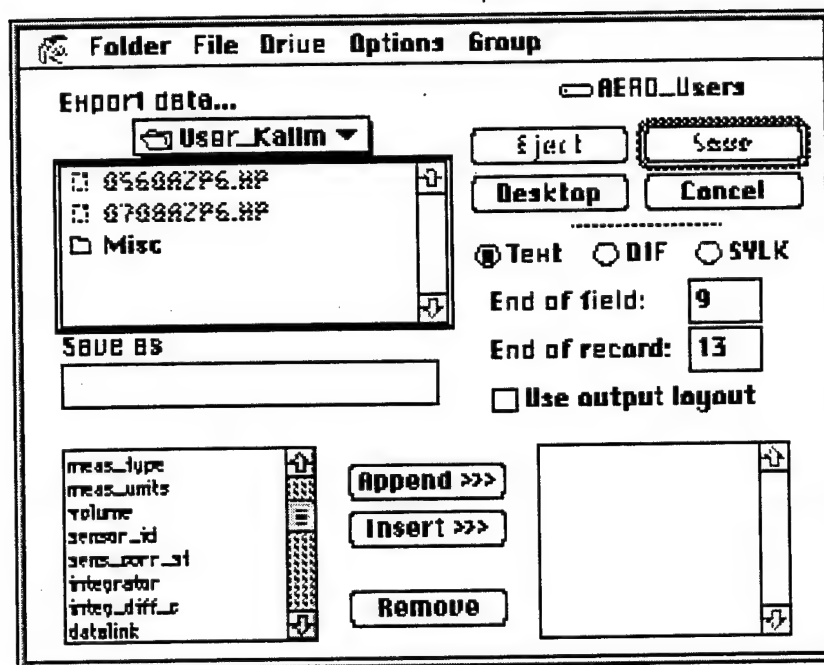

Figure 3.16: Export Data dialog box for F18 measurement table
2. Select **Export Data...** from the **File** menu. The Export Data dialog box is shown in Figure 3.16.